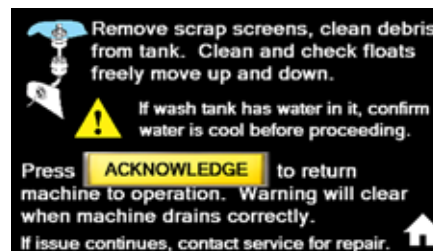

Fig. 100a - Follow instructions on screen
- Press the blinking  icon and an instruction screen will appear. Follow the instructions and press ACKNOWLEDGE, (Fig. 100a).